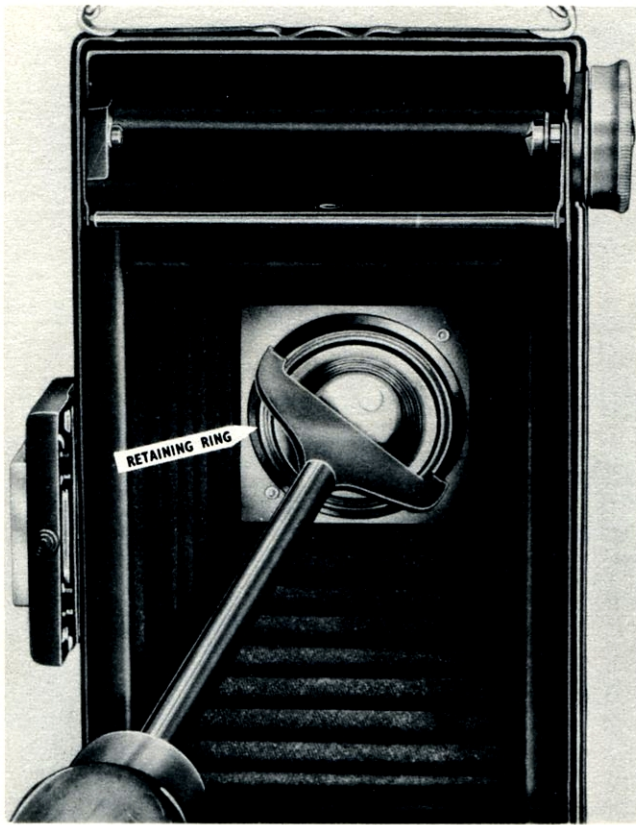

FIGURE 2
1. Open the camera and insert the retaining ring key. (See Fig. 2)